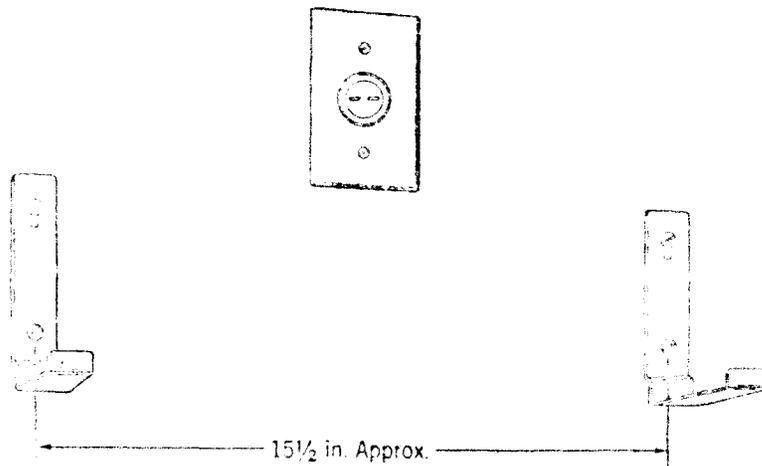

Fig. 10—Installing Nulite 1 Brackets on Vertical Surface
2.03 Space brackets for Nulite NU2-A sign on vertical and horizontal surfaces as shown in Figs. 10 and 11 respectively.